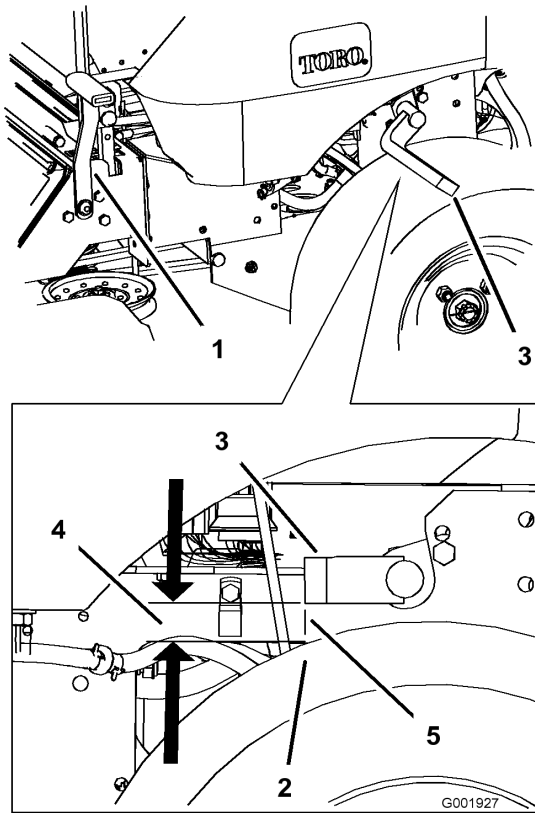

Figure 48
5. Remove the hairpin and cotter pin from the brake linkage (Figure 48).
7. Measure the distance vertically between the front of the brake bar and the crown of the tire; the measurement should be 7/8 inch to 1 inch. (Figure 48).
9. Engage the parking brake, with the lever up and ensure the brake bar engages the tire (Figure 48).
10. Measure the length of the spring; the measurement should be 2-3/4 inch (74 mm) between the washers (Figure 48).